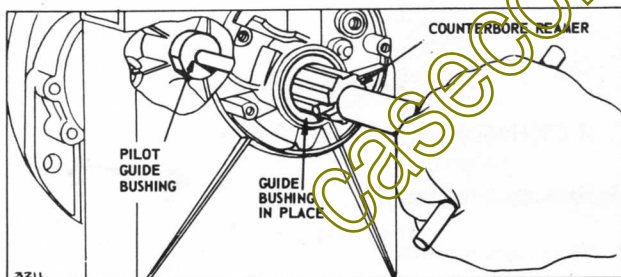

FIGURE 9-5
4. Assemble the counterbore reamer and the pilot. Put this assembly into the cylinder until the pilot enters the pilot guide bushing in the sump. See figure 9-5.